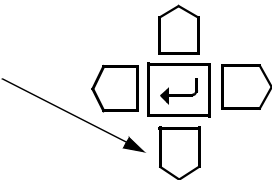

Figure 21 The Down arrow navigation key.
2. Move the cursor (the shaded field) to the **Incremental** field using the **Down arrow** key on the teach pendant (see Figure 21).